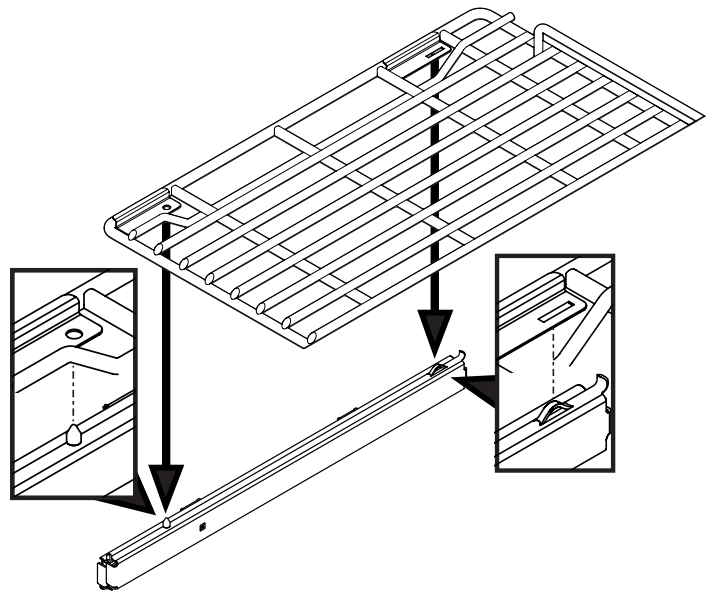

Figure 20: Installing glide racks
The glide racks appear slightly different than the flat racks (see Figure 20). Only the glide racks can be installed onto the glide tracks.
3. Near the back of the rack, fit the rack slot onto the track tabs. Near the front of the rack, fit the track pin into the hole on the rack (see Figure 20).